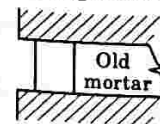

Fig. 5.20.3. Recessed pointing.
- i. The face of this pointing is kept vertical and it is pressed inside the wall surface by a suitable tool to a depth of about 5 mm or more as shown in Fig. 5.20.3.